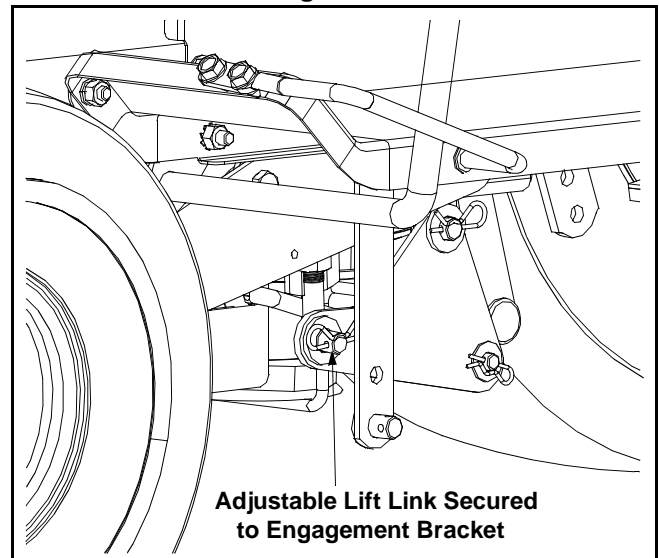

Figure 17
3. Insert the end of the tractor’s adjustable lift link through the hole found in the undercarriage’s engagement bracket. See Figure 17 .